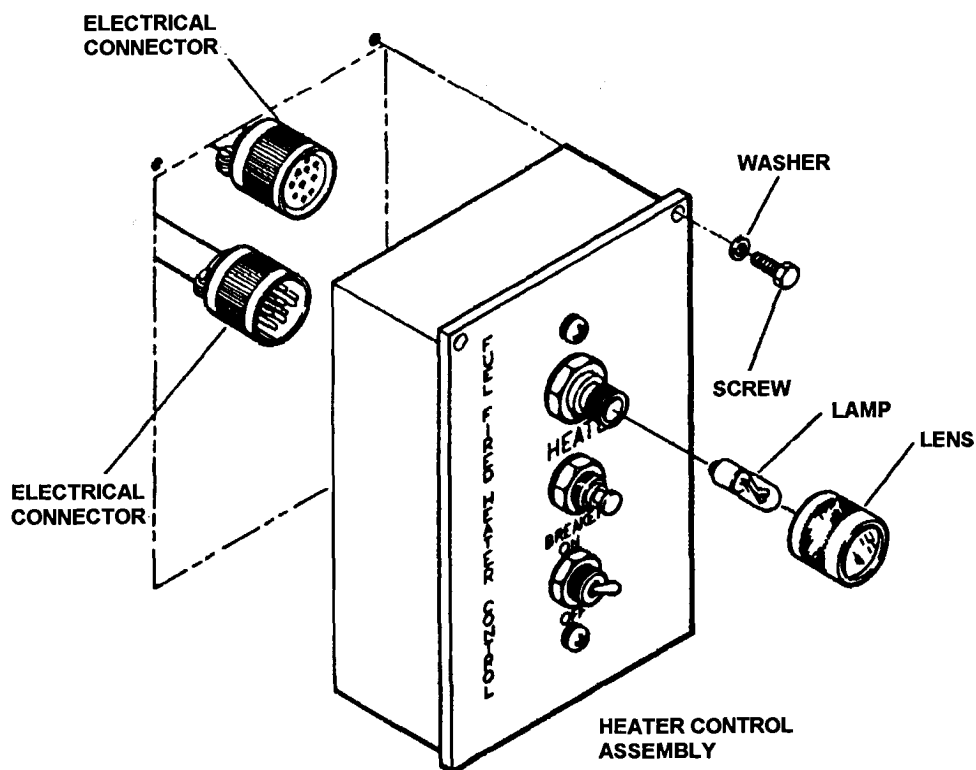

Figure 5-3. Fuel Burning Winterization Kit Heater Control Assembly Maintenance
- (a) Removal screws (Figure 5-3) and washers.
- (a) Unscrew lens (Figure 5-3).
- (b) Install washers (Figure 5-3) and screws.